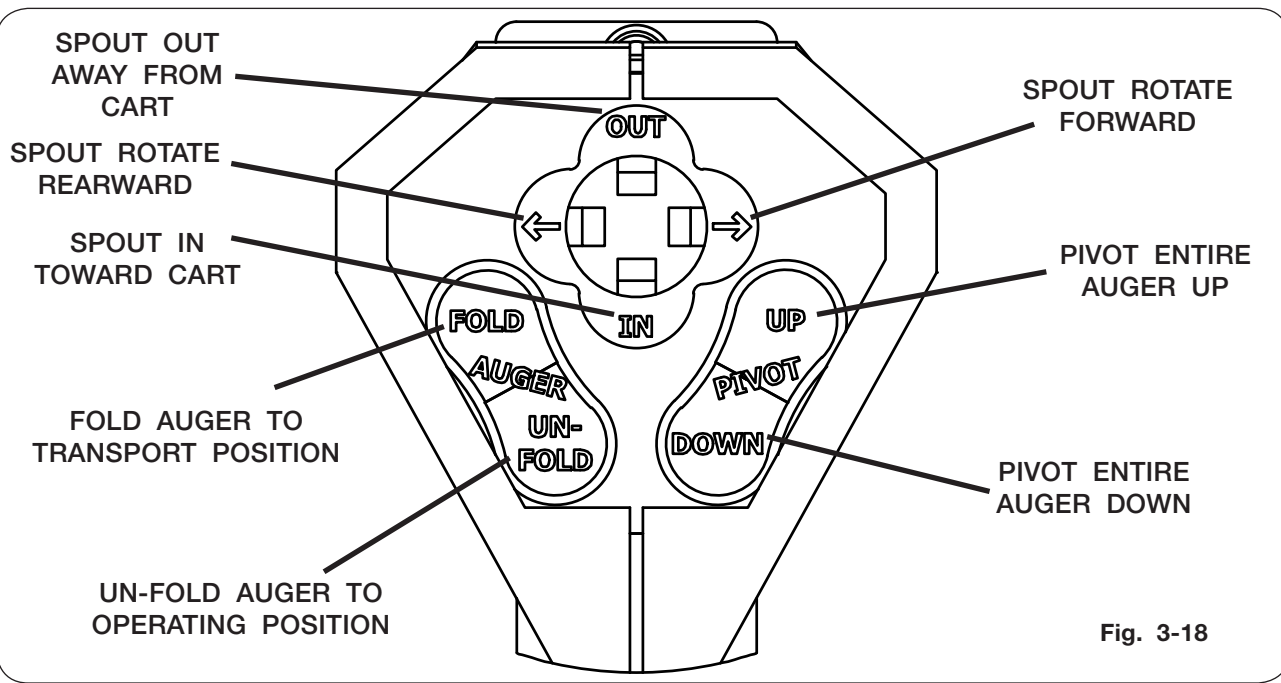

Fig. 3-18
3. To fold auger out from transport to operating position, push down the auger unfold button on joystick face until the upper and lower auger are engaged and fold linkage is over center. See Fig. 3-18.
4. To pivot spout OUT away from cart, push hat switch toward OUT. Hold the switch until desired position is achieved. See Fig. 3-18.
5. To pivot spout IN toward cart, push hat switch toward IN. Hold the switch until desired position is achieved. See Fig. 3-18.
6. To pivot the entire auger UP, press and hold the auger pivot UP button until the desired height is achieved. See Fig. 3-18.
7. To pivot the entire auger DOWN, press and hold the auger pivot DOWN button until the desired height is achieved. See Fig. 3-18.
8. To pivot the spout FORWARD, push hat switch RIGHT. Hold the switch until desired position is achieved. See Fig. 3-18.
9. To pivot the spout REARWARD, push hat switch LEFT. Hold the switch until desired position is achieved. See Fig. 3-18.